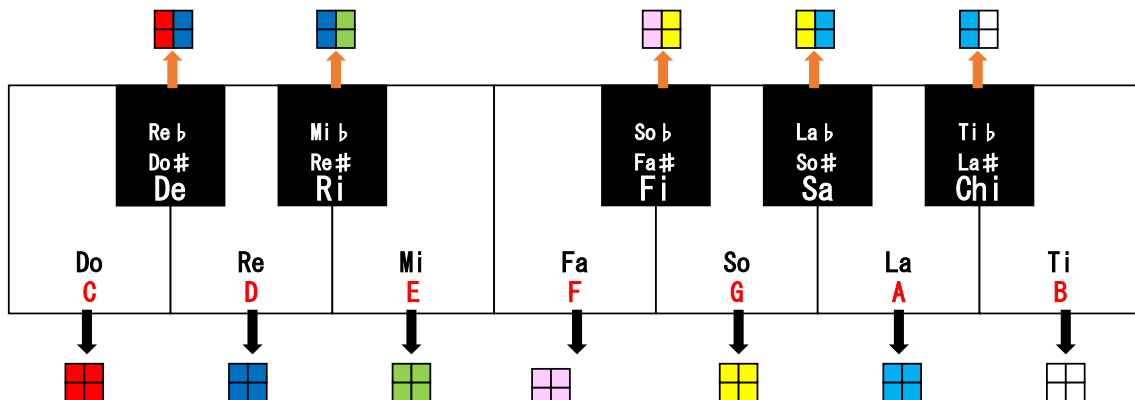

Figure 1-9 Display Color for Each Note (All MIDI Channels Concurrent Display Mode)
- Color assignment by note of each channel shall be the same as that for specific MIDI channel display mode. The display frames are reduced as shown in Figure 1-9.